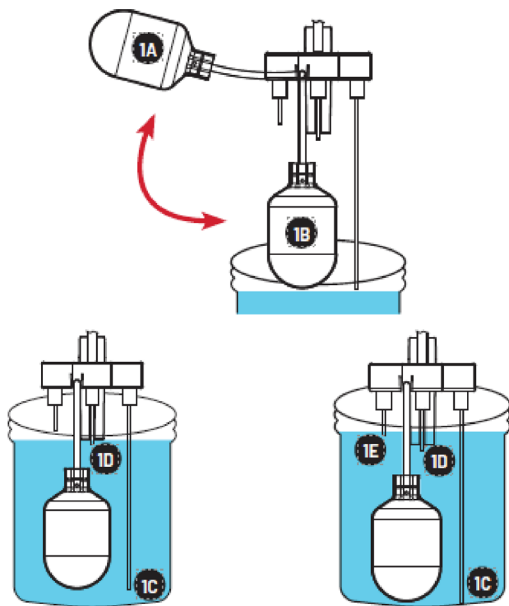

Figure 14
1. Before lowering the preset level sensor into the water (Fig. 14), test high oil alarm condition by raising (1A, activate) and lowering (1B, deactivate) the high level float switch to verify:
- With the Off/Auto switch in the AUTO position, test a pump cycle by slowly immersing the preset level sensor into the water (Fig. 14) to verify:
- With the Off/Auto switch in the AUTO position, test a high water alarm condition by slowly immersing the preset level sensor into the water (Fig. 14) to verify: